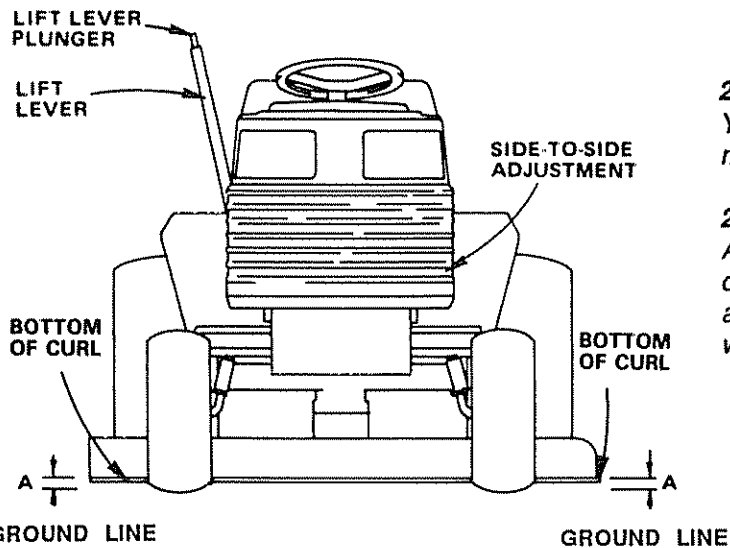

FIGURE 30
- Depress lift lever plunger and use lift lever to raise mower to maximum cutting height. (Fig. 30).
- Measure height from bottom of curl to ground line at front of mower. Distance "A" should be the same on both sides (Fig. 30).